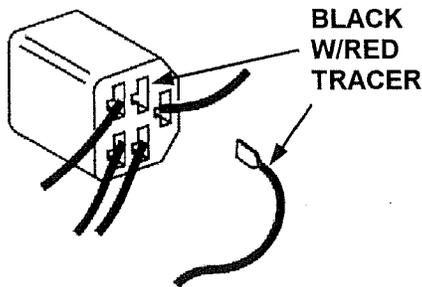

FIGURE 22 IGNITION SWITCH CONNECTOR BODY
4. (See figure 22) Remove the (black w/red tracer) wire from the ignition switch connector. Use a small screwdriver (1/16" blade) insert into the front of the connector to release the locking tab.